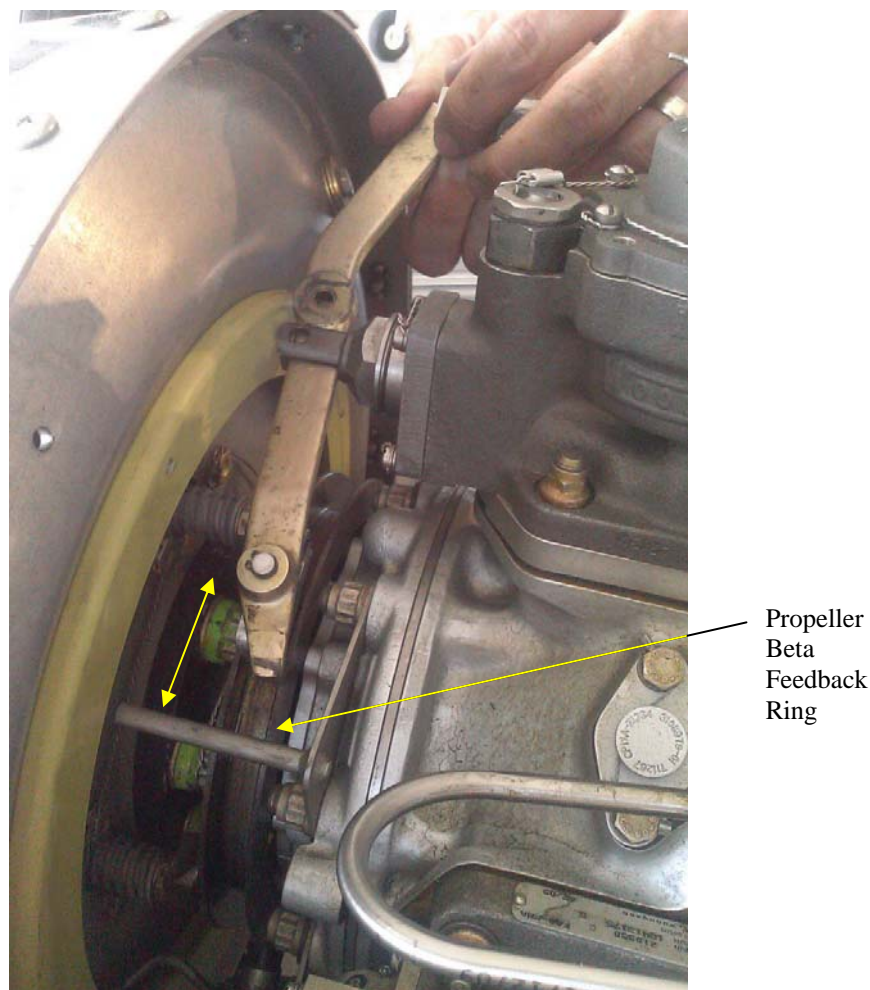

Figure 5-6: Slide Beta Arm to Disengage Propeller Beta Feedback Ring
- a. Slide the beta arm past the connection point with the propeller reversing cable enough to lift the carbon block out of the propeller beta feedback ring. Refer to **Figure 5-6**.
2. Reposition the beta arm to re-engage the carbon block with the propeller beta feedback ring. Refer to **Figure 5-6**.